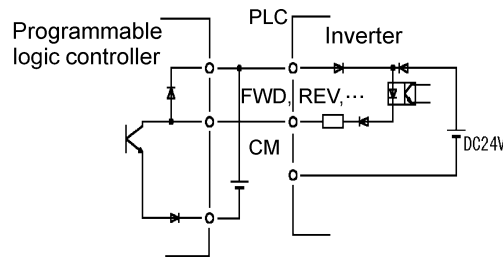

Figure 3-3-10
1) The digital input terminals such as FWD, REV, and X1-X9 are generally turned on/off between the CM terminal. If turned on/off using an external power source and open collector outputs from the programmable logic controller, the terminals may malfunction due to current leak from the external power source. In this case, connect the external power source using the PLC terminal as shown in Figure 3-3-10.
(3) Transistor output terminals (Y1-Y4 and CME)